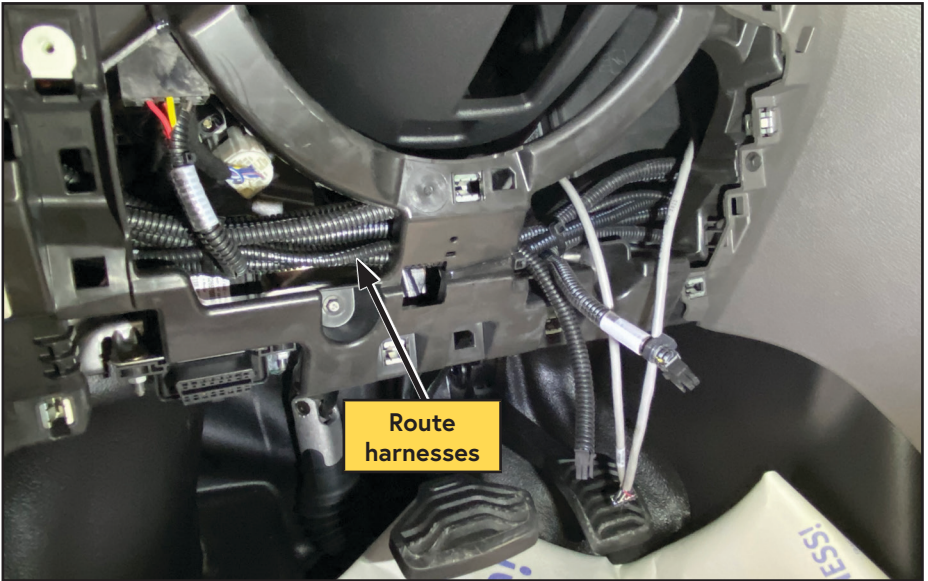
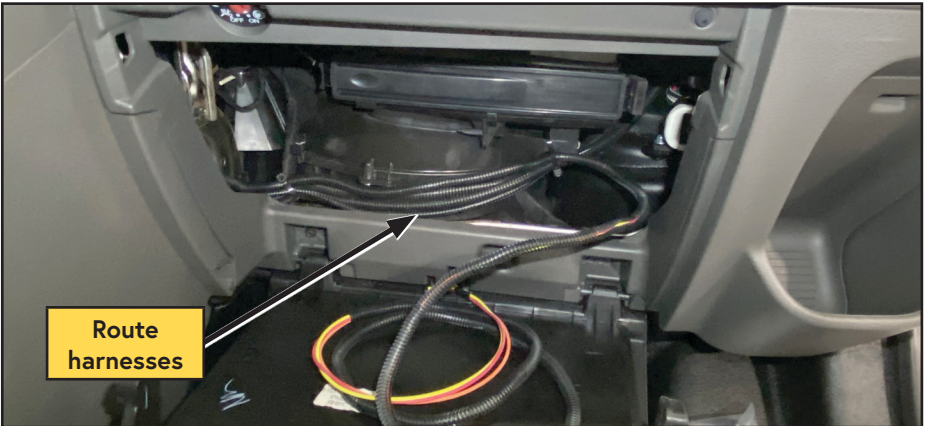

Figure 57 — Route engine bay harnesses
Figure 58 — Route engine bay harnesses
- Route the following harnesses behind the dashboard and glove compartment to the passenger side of the vehicle (Figure 57, Figure 58):*